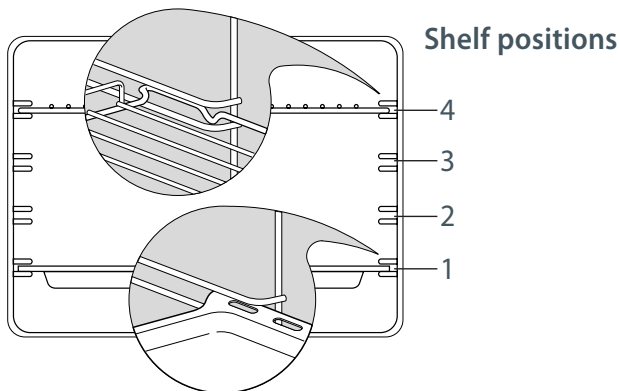

Fig. 6 Correct position of shelves and grill tray
- Slide in the shelves and grill tray as shown in Fig.6 below. Fit them between the metal wires of the side racks, with the safety stop notch down and at the back.